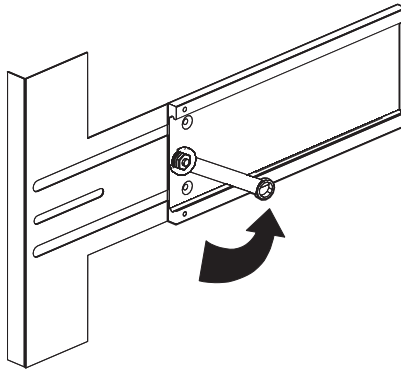

FIGURE 1-17 Removing the Slide Retention Nuts
1. Remove the nut and washer at the rear of each slide assembly (FIGURE 1-17). Store the retention nut and washer for future use.